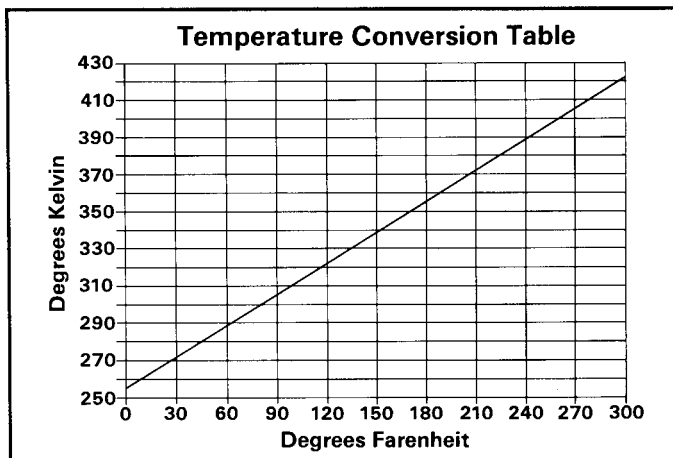
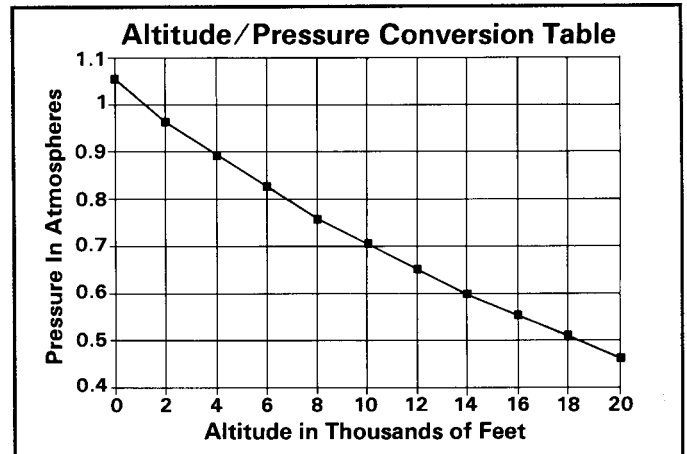

Figure 1
Figure 2
There's only one more catch to using equation (6) and that lies in the fact that T_i and T_o must be converted to degrees Kelvin (an absolute temperature scale where 0 degrees means the temperature where all molecular motion stops). Figure 1 is a chart which will allow you to convert degrees F to degrees K. We also need to convert altitude to pressure in atmospheres (atm) and Figure 2 gives you a nice chart for performing that task.
First we have to convert 60° F and 200° F into Kelvin temperatures. Looking at Figure 1 we get $T_i = 288.5^\circ \text{ K}$ and $T_o = 366.3^\circ \text{ K}$. So our list now looks like:
need to talk about direction too! We conveniently do this on paper by drawing arrows (called vectors). (Figure 1) When we draw these arrows their length represents the amount of their magnitude. Their direction, of course, represents their direction. For example a 2-pound upward force is drawn twice as long as a 1-pound upward force, a 3-pound force 3 times longer, and so on.
Only one more concept and we can get back to balloon talk. This concerns the up and sideways vector. If I pull a kid's wagon with an up and sideways force, I can accomplish the same thing by making 2 separate forces at 90 degrees to each other which are equivalent. (Figure 2)